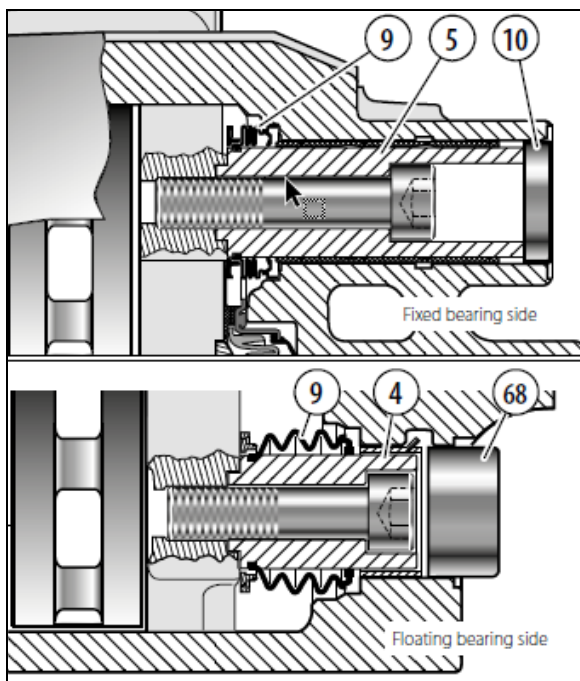

FIGURE 44: CHECKING OF GUIDE PIN AND SEALS
Screw out the tappets (13) using the shear adapter (61) clockwise until the boots are clearly visible (see Figure 44).